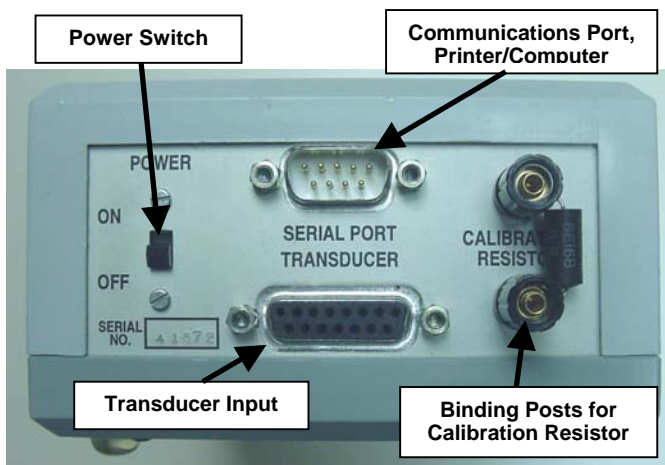

Figure 2. Model 920 End Panel
In order to record data with this instrument, the transducer must be properly connected to the Model 920. If recording from a single torque-only, torque-angle, or force sensor, simply connect the sensor to the DB-15 receptacle labeled TRANSDUCER. See Figure 2.
1. Connect the transducer that will be used to the TRANSDUCER connector on the Model 920. Make sure that the correct cal resistor is installed on the external binding posts (see Figure 2). If using a non-standard or custom transducer refer to paragraph 3.2.